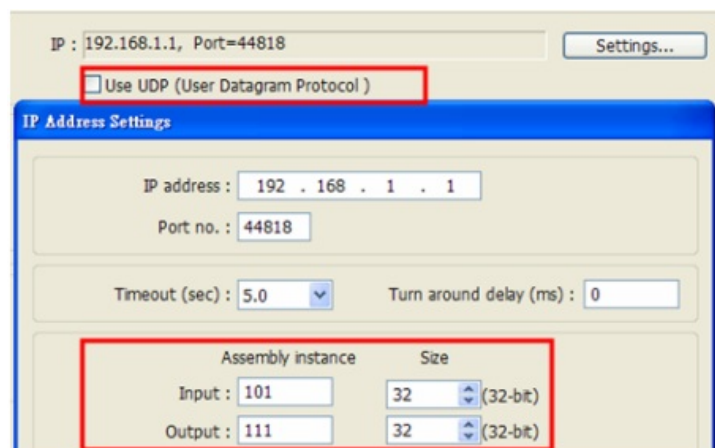
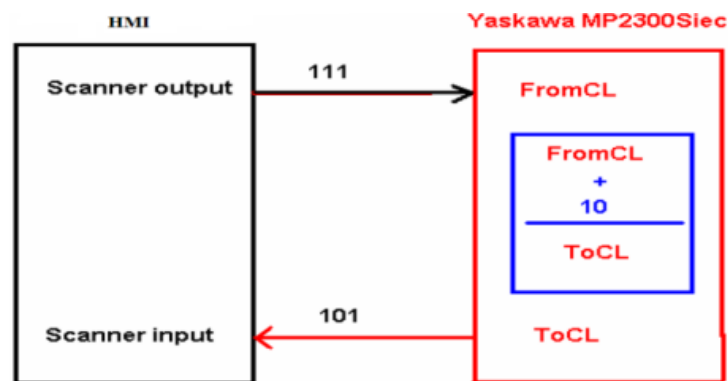

Fig. 7 Instance Setting
Fig.8 HMI and MP2300Siec I/O Mapping
- Open EasyBuilder project, as shown in Fig. 7, Assembly Instance and Size must match the software default factory settings, and please don't select UDP. Fig.8 below shows how